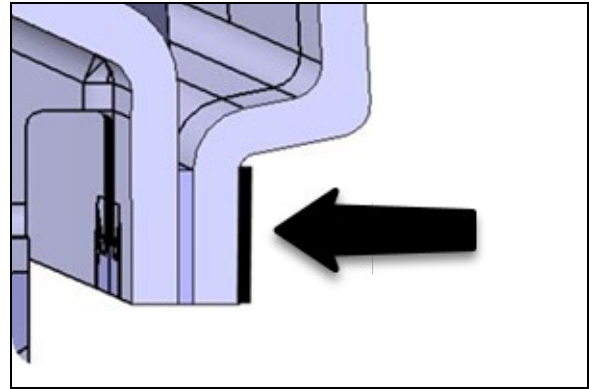

FIGURE 58
5. Spread the sealant on the fiber surface as shown (Figure 58).